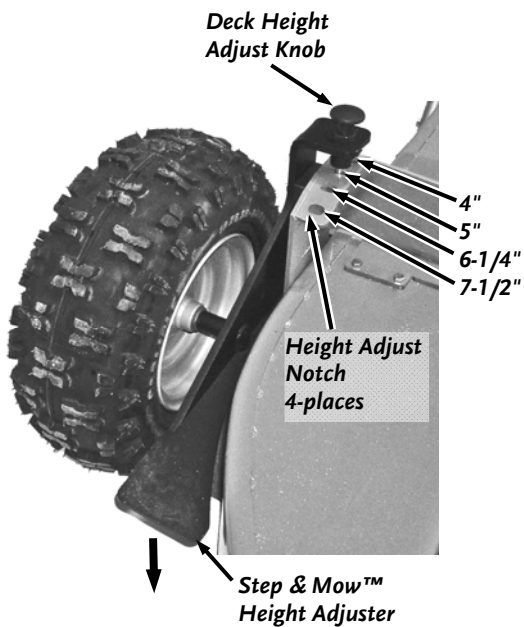

Figure 20
1. To change the cutting height, apply foot pressure to the Step & Mow™ Height Adjuster (**Figure 20**) and at the same time, lift up on the spring loaded Deck Height Adjust Knob and re-position the Knob to the desired height in one of the four Height Adjust Notches on top of the Deck. Repeat this for the opposite side of the Deck.